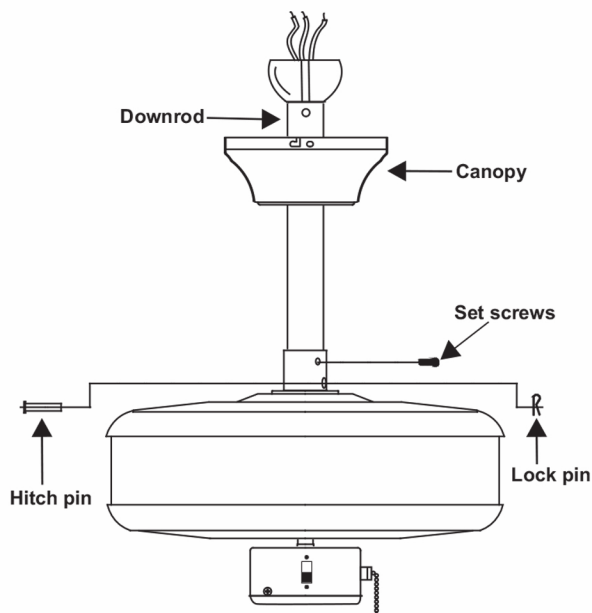

Figure 6
Step 4. Route wires exiting from the top of the fan motor through the canopy and then through the ball/downrod. (Fig. 6)
Step 5. Align the holes at the bottom of the downrod with the holes in the collar on top of the motor housing. Carefully insert the hitch pin through the holes in the collar and downrod. Be careful not to jam the pin against the wiring inside the downrod. Insert the locking pin through the hole near the end of the hitch pin until it snaps into its locked position. (Fig. 6)